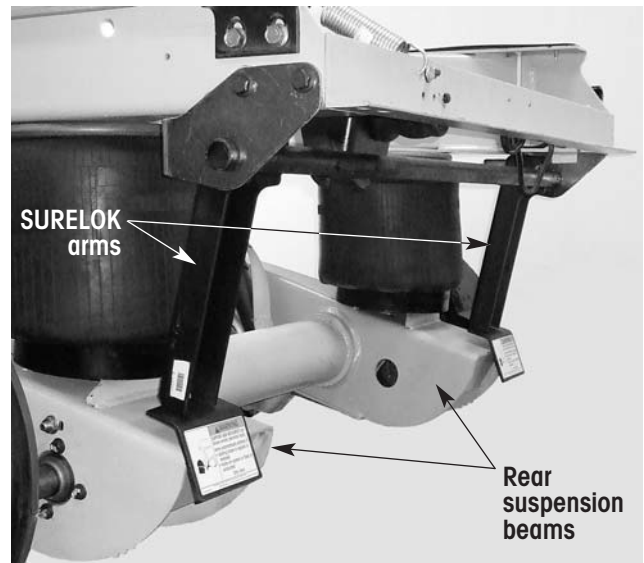

Figure 2. SURELOK engaged
2. Visually check to ensure that both SURELOK arms are in the engaged position (i.e., the SURELOK arms must be positioned directly above the rear suspension beams as shown in figure 2).